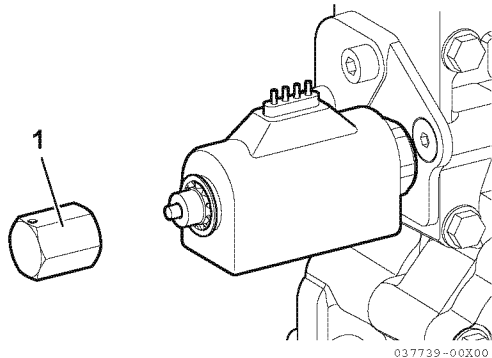

Figure 10
- Thread the emergency nut (1, Figure 10) onto electric valve.